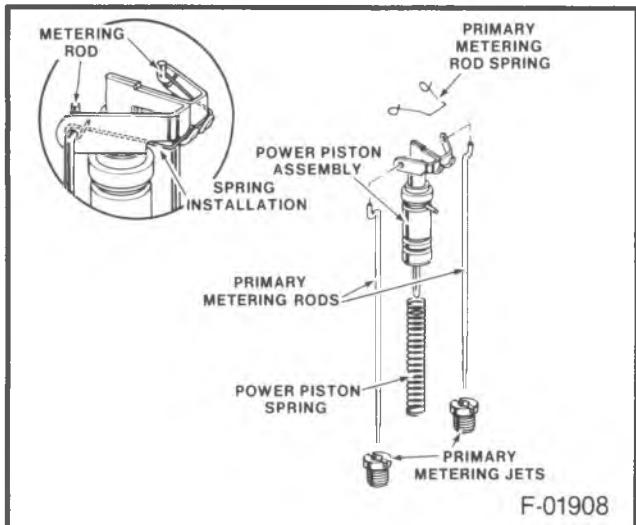

Figure 20 -- Power Piston, Metering Rods and Jets
- Disassemble** (Figure 20)
- Primary metering rods (213) and metering rod spring (214), from power valve piston assembly (212).
2. Remove power piston spring (218) from float bowl.
- Remove or Disconnect** (Figure 20)
- Primary metering jets (248) from float bowl.